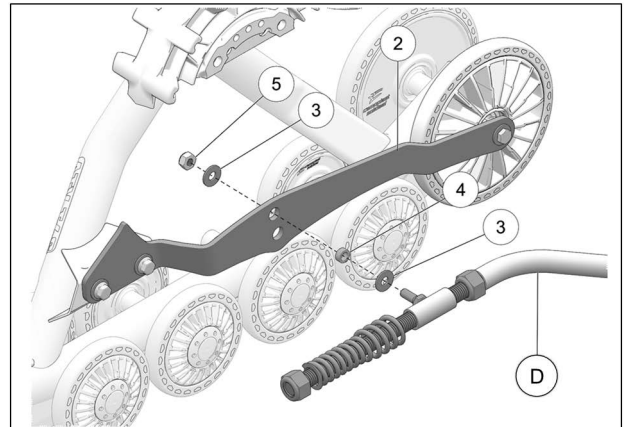

Fig. 12
10. Attach the rear suspension stabilizing rod (**D**) to the undercarriage bracket (**2**) using washers (**3**), bushing (**4**) and nut (**5**). Use upper hole. Torque nut to 50 Nm [37 lb•ft]. See Fig. 12